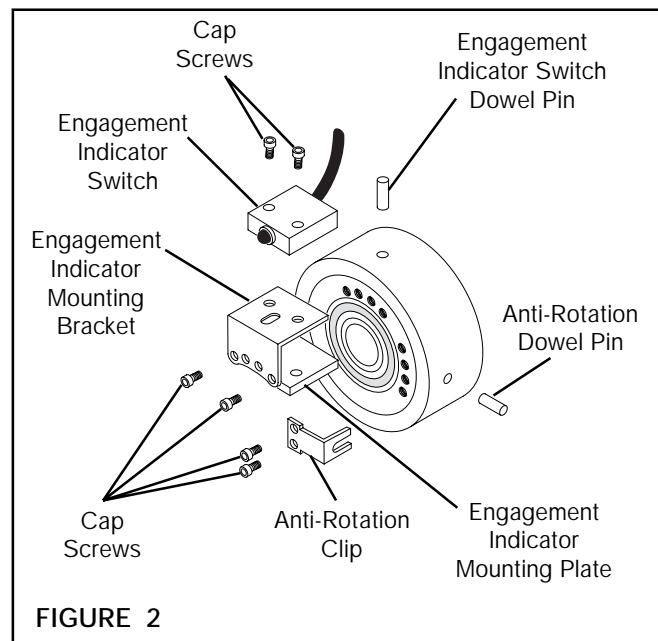

FIGURE 2
NOTE: The Anti-Rotation Clip may be installed in either set of tapped holes located on the front of the Piston (See Figure 2).
1. Install the Anti-Rotation Dowel Pin (See Figure 2).
2. Using Cap Screws, secure the Anti-Rotation Clip to the front of the Piston (See Figure 2).
3. Install the Engagement Indicator Dowel Pin (See Figure 2).
4. Using Cap Screws, secure the Engagement Indicator Switch to the tapped Engagement Indicator Mounting Plate and Engagement Indicator Mounting Bracket (See Figure 2).
5. Using Cap Screws, secure the Engagement Indicator Mounting Bracket (with Engagement Indicator Switch) to the front of the Piston (See Figure 2).